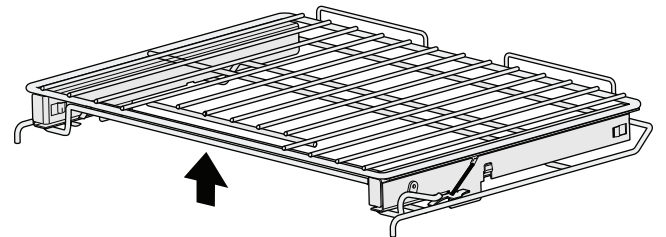

Figure 19: Extensible Glide Rack with release lever in unlocked position
2. While holding up the release lever (Figure 19), pull the Glide Rack out of the oven until the stop position is reached, use two hands if necessary.